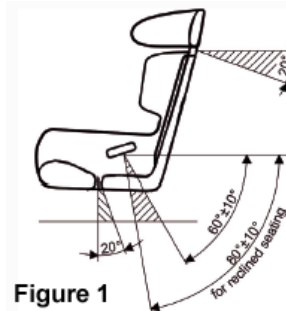

Figure 1
All harness belts must be installed based on the instructions provided by the harness belt manufacturer. Figure 1 details the recommended installation angles of anchor point based on the latest testing completed by following types of harnessbelts are approved. Both CAM lock, locking systems are allowed.
A. The lap belts shall be mounted rearward of the pelvis, between two lines drawn at 60-degrees, and 80-degrees, below the horizontal (see Figure 1).
C. The shoulder harness must be mounted at an angle of 0-degrees to -20-degrees from the horizontal plane measured from the top of the shoulder or the top of the HANS (see Figure 1). In no case shall the shoulder harness be mounted above the horizontal at shoulder height.